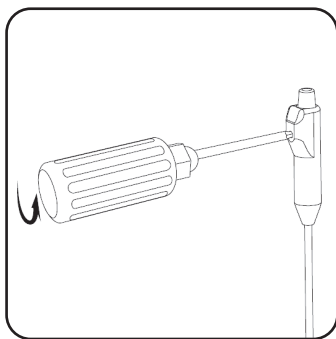

Figure 17. Use the torque wrench to turn the setscrew counterclockwise to back up the percutaneous extension setscrew and allow for insertion of the lead.
3. Use the torque wrench to turn the setscrew counterclockwise to back up the setscrew. Do not remove the setscrew from the connector block (**Figure 17**)